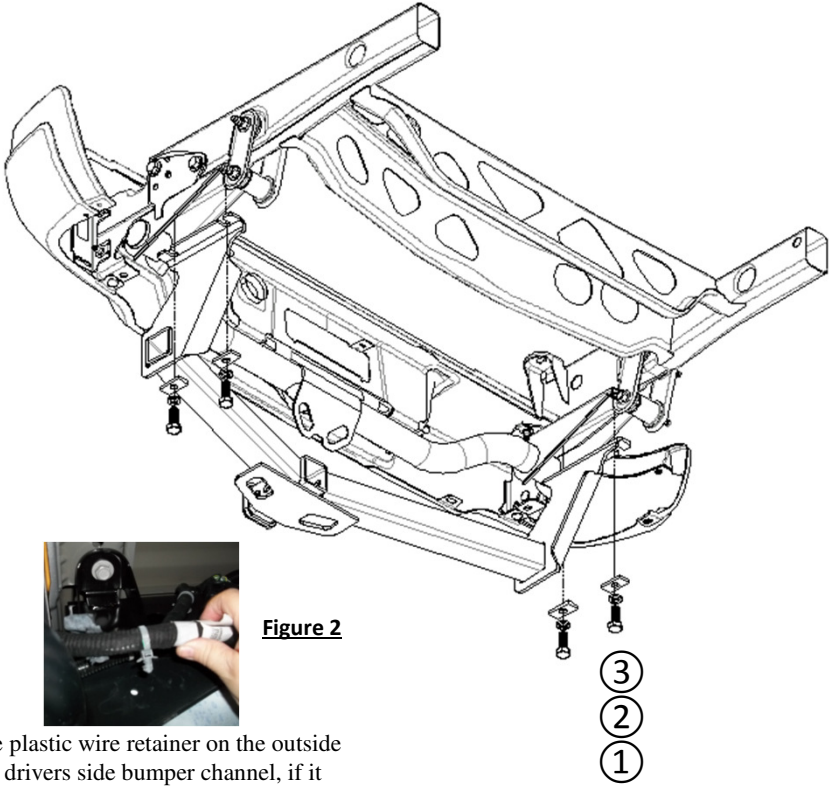

Figure 2
2. Raise hitch into position and install provided fasteners as shown. See Figure 2.